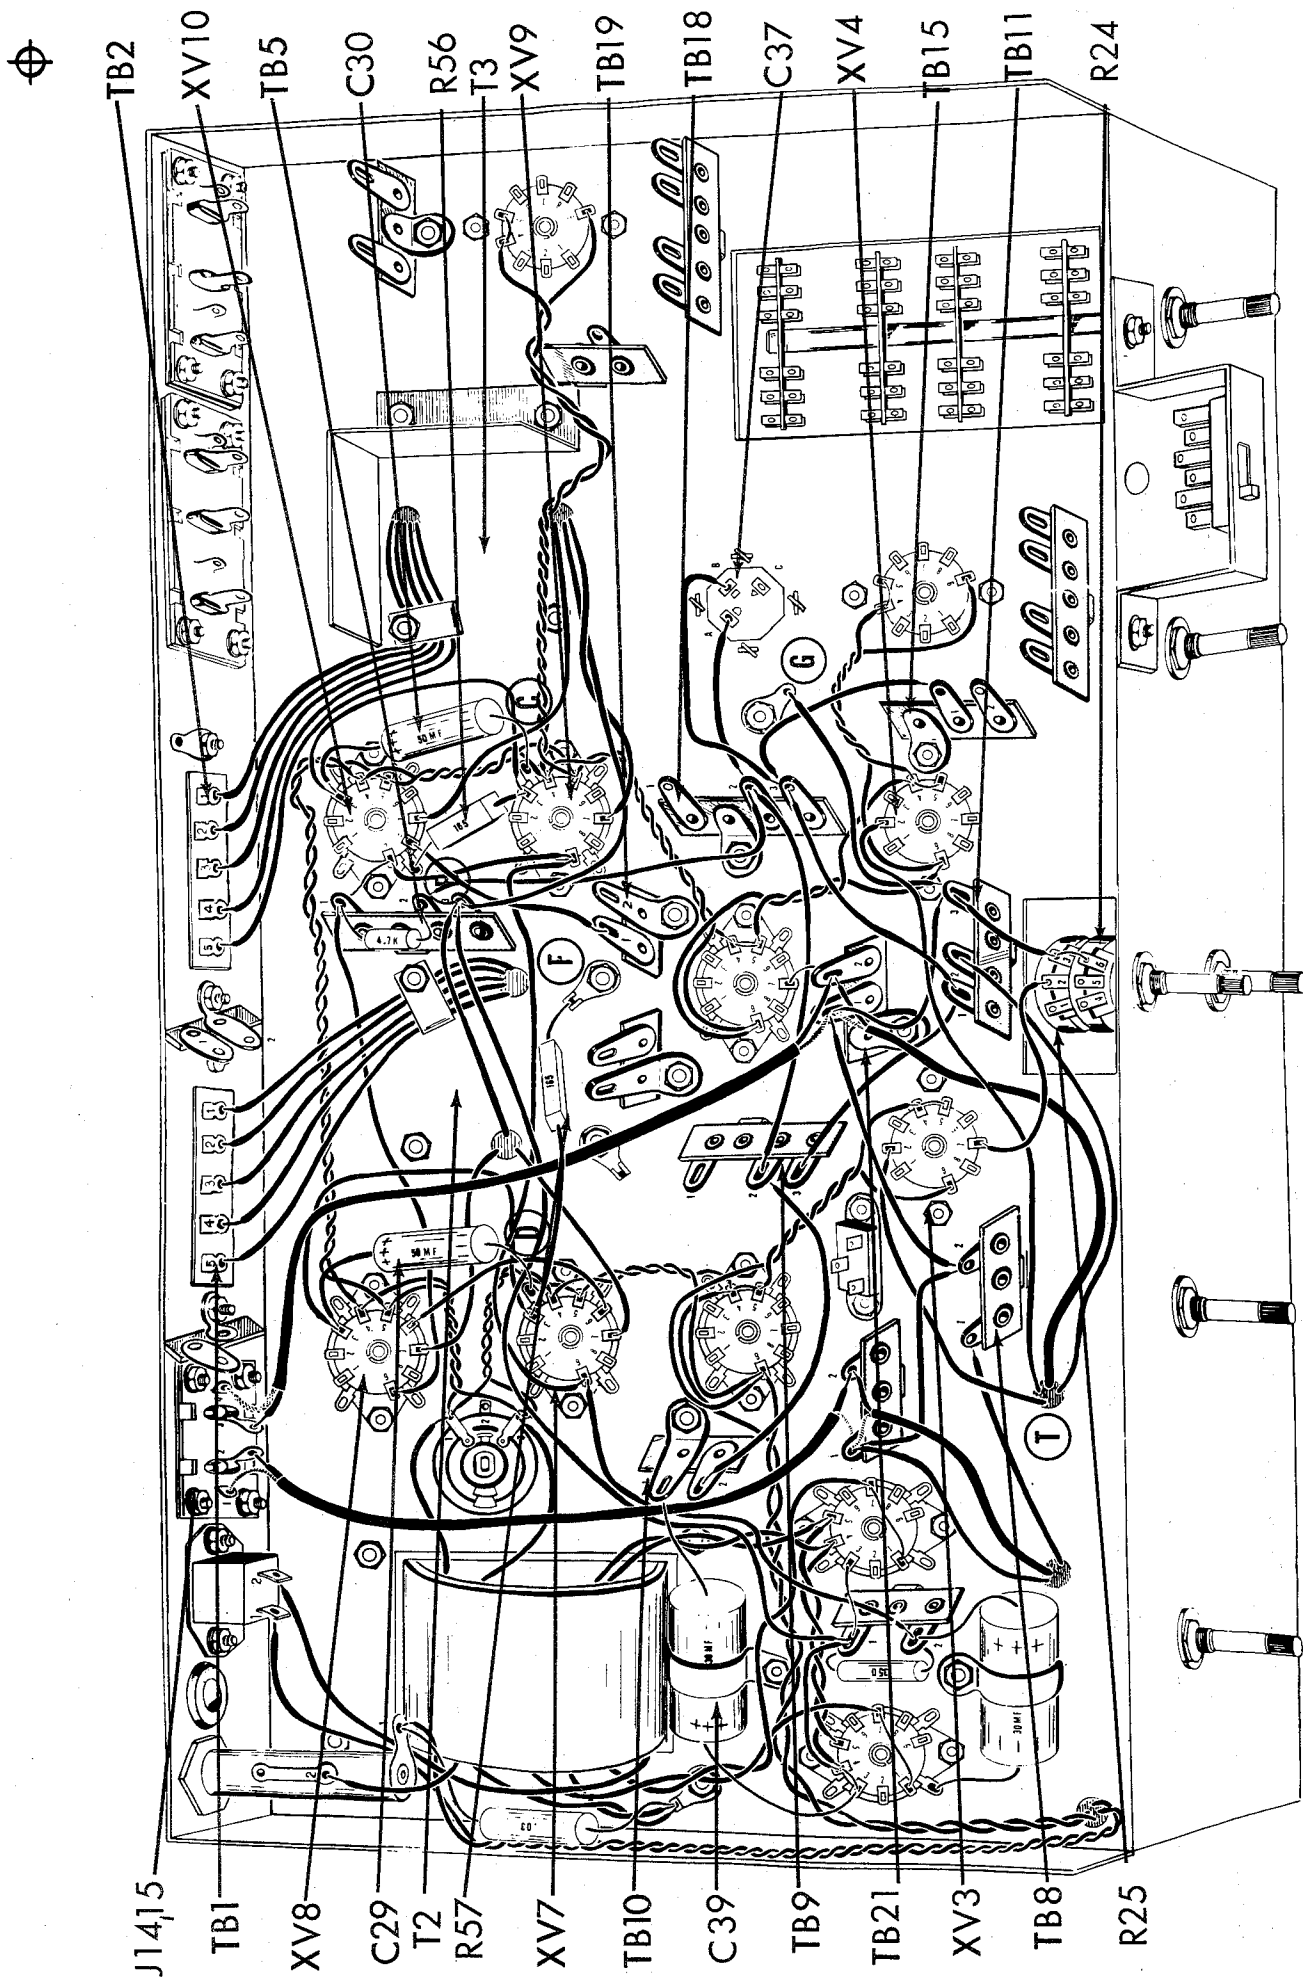

Fig. 8
1. (✓) Fig. 8. Cut the negative (-) lead on the 30 mfd electrolytic capacitor, C39, to 1 1/4". Connect to TB10-1 (C).
2. (✓) Fig. 8. From the output transformer, T2, connect the yellow lead to TB1-4 (C), the green lead to TB1-3 (S1), the brown lead to TB1-2 (S1), the black lead to TB1-1 (C), the red lead to TB5-3 (C), the blue lead to XV7-7 (S1), the brown-yellow lead to XV8-7 (S1), and the orange lead to TB1-5 (S1).
3. (✓) Fig. 8. Connect a 3 1/2" piece of green wire from XV7-6 (C) to XV8-6 (C).
4. (✓) Fig. 8. Connect a 3 1/2" piece of green wire from XV10-8 (C) to TB19-1 (C).
5. (✓) Fig. 8. Cut all leads on two 50 mfd, 25V, electrolytic capacitors, C29, and C30, to 1". Cover the positive (+) leads on both capacitors with a 3/4" piece of spaghetti. Connect the positive lead of one capacitor to XV10-3 (S2) and the negative (-) lead to ground lug "C" (S1) at XV9. Connect the positive (+) lead of the second capacitor to XV8-3 (S2) and the negative (-) lead to ground lug "D" (S1) at XV7.
6. (✓) Fig. 8. Cut both leads on a 165Ω, 5 watt resistor, R56, to 3/4". Cover one lead with a 1/2" piece of spaghetti and connect XV9-3 (S2). Connect the other lead to ground lug "E" (S1) at XV10. Dress resistor away from surrounding wires.
7. (✓) Fig. 8. From the output transformer, T3, connect the yellow lead to TB2-4 (C), the green lead to TB2-3 (S1), the brown lead to TB2-2 (S1), the black lead to TB2-1 (C), the red lead to TB5-3 (S3), the blue lead to XV9-7 (S1), the brown-yellow lead to XV10-7 (S1) and the orange lead to TB2-5 (S1).
8. (✓) Fig. 8. Connect the brown lead from hole "T" to TB11-2 (C).
9. (✓) Fig. 8. Connect a 2 1/2" piece of red wire from TB9-3 (C) to TB11-1 (C).
10. (✓) Fig. 8. Connect the outer shield from the single conductor cable (from hole "T") to TB21-1 (C) and the inner conductor to TB21-2 (C).
11. (✓) Fig. 8. Connect a 3 1/2" piece of orange wire from TB9-2 (C) to TB18-2 (C).
12. (✓) Fig. 8. Strip back the outer insulation 3/4" from one end of an 8"
- piece of single conductor shielded cable. Twist the shield strands together. Strip the insulation on the inner conductor back 1/4". Connect the shield to TB21-1 (C) and the inner conductor to TB21-2 (C). On the other end of the same cable, strip the outer insulation back 1/2". Twist the shield strands together. Strip the insulation on the inner conductor back 1/4". Connect the shield to J14, 15-4 (S1) and the inner conductor to J14, 15-3 (S1).
13. (✓) Fig. 8. Cut one lead on the 165Ω, 5 watt resistor, R57, to 1 1/2" and cover with a 1 1/4" piece of spaghetti. Connect this lead to XV7-3 (S2). Cut the other lead to 1/2" and connect to ground lug "F" (S1). Dress away from the surrounding wires.
14. (✓) Fig. 8. Connect a 3 1/2" piece of black wire from TB8-2 (C) to TB21-1 (C).
15. (✓) Fig. 8. Connect a 3" piece of black wire from TB21-1 (C) to TB11-3 (C).
16. (✓) Fig. 8. Connect a 3 1/2" piece of black wire from TB11-3 (C) to ground lug "G" (C).
17. (✓) Fig. 8. Connect the grey lead from hole "T" to XV4-2 (S1).
18. (✓) Fig. 8. Connect a 4" piece of orange wire from TB10-2 (C) to TB9-2 (C).
19. (✓) Fig. 8. Connect a 3 1/2" piece of red wire from TB11-1 (C) to TB18-3 (C).
20. (✓) Fig. 8. Connect a 4 1/2" piece of red wire from TB18-3 (C) to C37-B (C).
21. (✓) Fig. 8. Connect a 3" piece of red wire from TB18-3 (C) to TB15-1 (C).
22. (✓) Fig. 8. Connect a 3 1/2" piece of orange wire from TB18-2 (C) to C37-A (C).
23. (✓) Fig. 8. Connect a 1" piece of bare wire to the dual concentric pots in the rectangular hole at the middle-front of the chassis. Connect from R24-6 (S1) to R25-3 (C).
24. (✓) Fig. 8. Connect a 2" piece of black wire from R25-3 (S2) to TB11-3 (C).
25. (✓) Fig. 8. Connect a 1 3/4" piece of green wire from R25-2 (S1) to XV3-7 (S1).